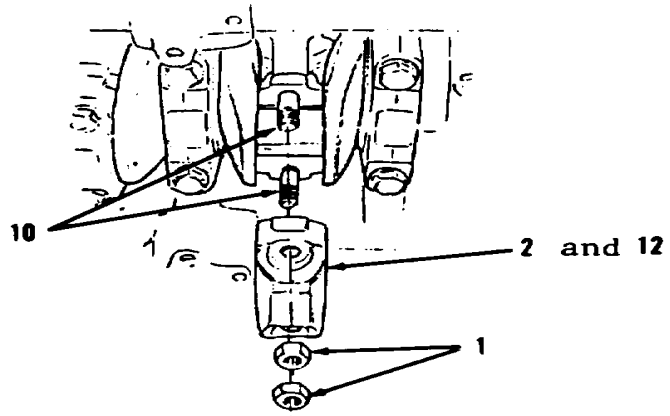

Figure 13-50.
15. Using piston ring compressor, install rings. Put piston into place while assistant guides items 12 thru 3 as an assembly into position on crankshaft.
16. Using clean oil, lubricate two bearings (12, Figure 13-50).
17. Using clean oil, lubricate cap (2), two nuts (1) and bolts (10) threads. Install and tighten to a 30 ft-lb torque.